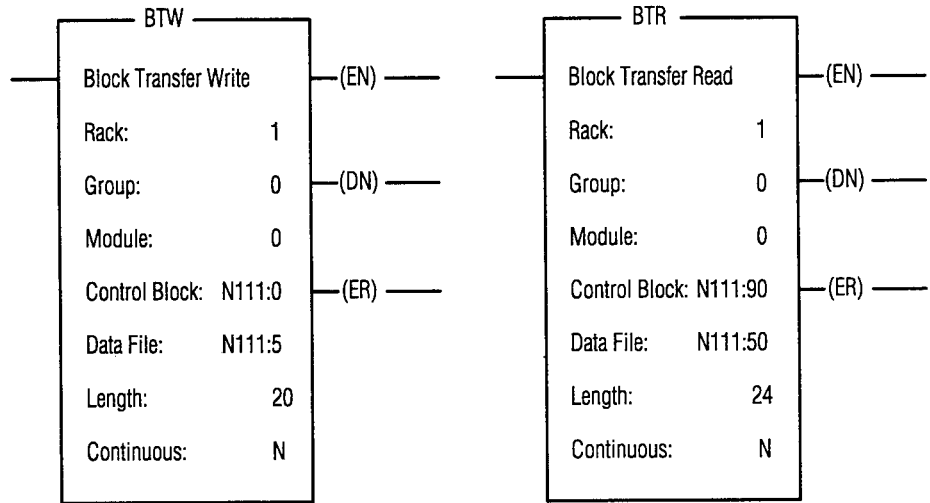
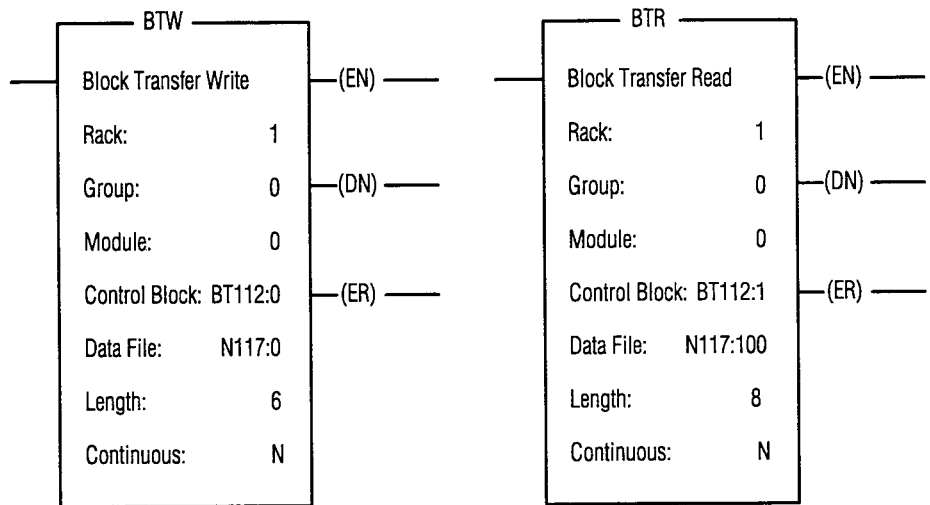

Figure 5-5 — PLC 5/15, 5/25 Block Transfer Instructions
Figure 5-6 — PLC 5/40, 5/60 Block Transfer Instructions
In order to use the Block Transfer Instructions in the PLC program, it is necessary to reserve several words for data storage. Some of these words are required for internal use by the Block Transfer Function and some contain the Block Transfer Message Information. In the PLC-5, the BTW and BTR blocks require the use of (2) sets of words. **Figures 5-5** and **5-6** illustrate the BTW and BTR blocks used for Block Transfer in the PLC-5 along with example information associated with these blocks. A brief description of the information contained in these blocks specifically for the PLC-5 follows. For more detailed information on the PLC-5 and the PLC-3 refer to your PLC Control Manual.
Group — The group number of the first group in the rack associated with the PLC Comm Board. In **Figure 5-5**, the rack has been set up as a full 8 group rack, therefore, the first group is 0. If 1/2 rack is selected the first group in the rack is 0 or 4. If 1/4 rack is selected, the first group in the rack is 0, 2, 4, or 6.
Control Block — A predefined set of words which contain bit information associated with the PLC Block Transfer Function. In the PLC-5/15 and 5/25, the control block requires (5) contiguous words. In **Figure 5-5**, Words N111:0 through N111:4 have been reserved for the bit array in the BTW block and Words N111:90 through N111:94 have been reserved for the BTR block. In the PLC-5/40 and 5/60 the control block may be either an integer type, and would require (5) contiguous words, or a Block Transfer Type and would require (1) element, as shown in **Figure 5-6**.
Data File — The address of the message sent by the BTW or received by the BTR block and contains both header and data information. The number of words required for the data file is dependent on the type of message being sent. In **Figure 5-5**, N111:5 is the first word in the data file for the BTW block and N111:50 is the first word for the BTR block. Refer to the message description section in this chapter for the header and data that must be included in the data file.